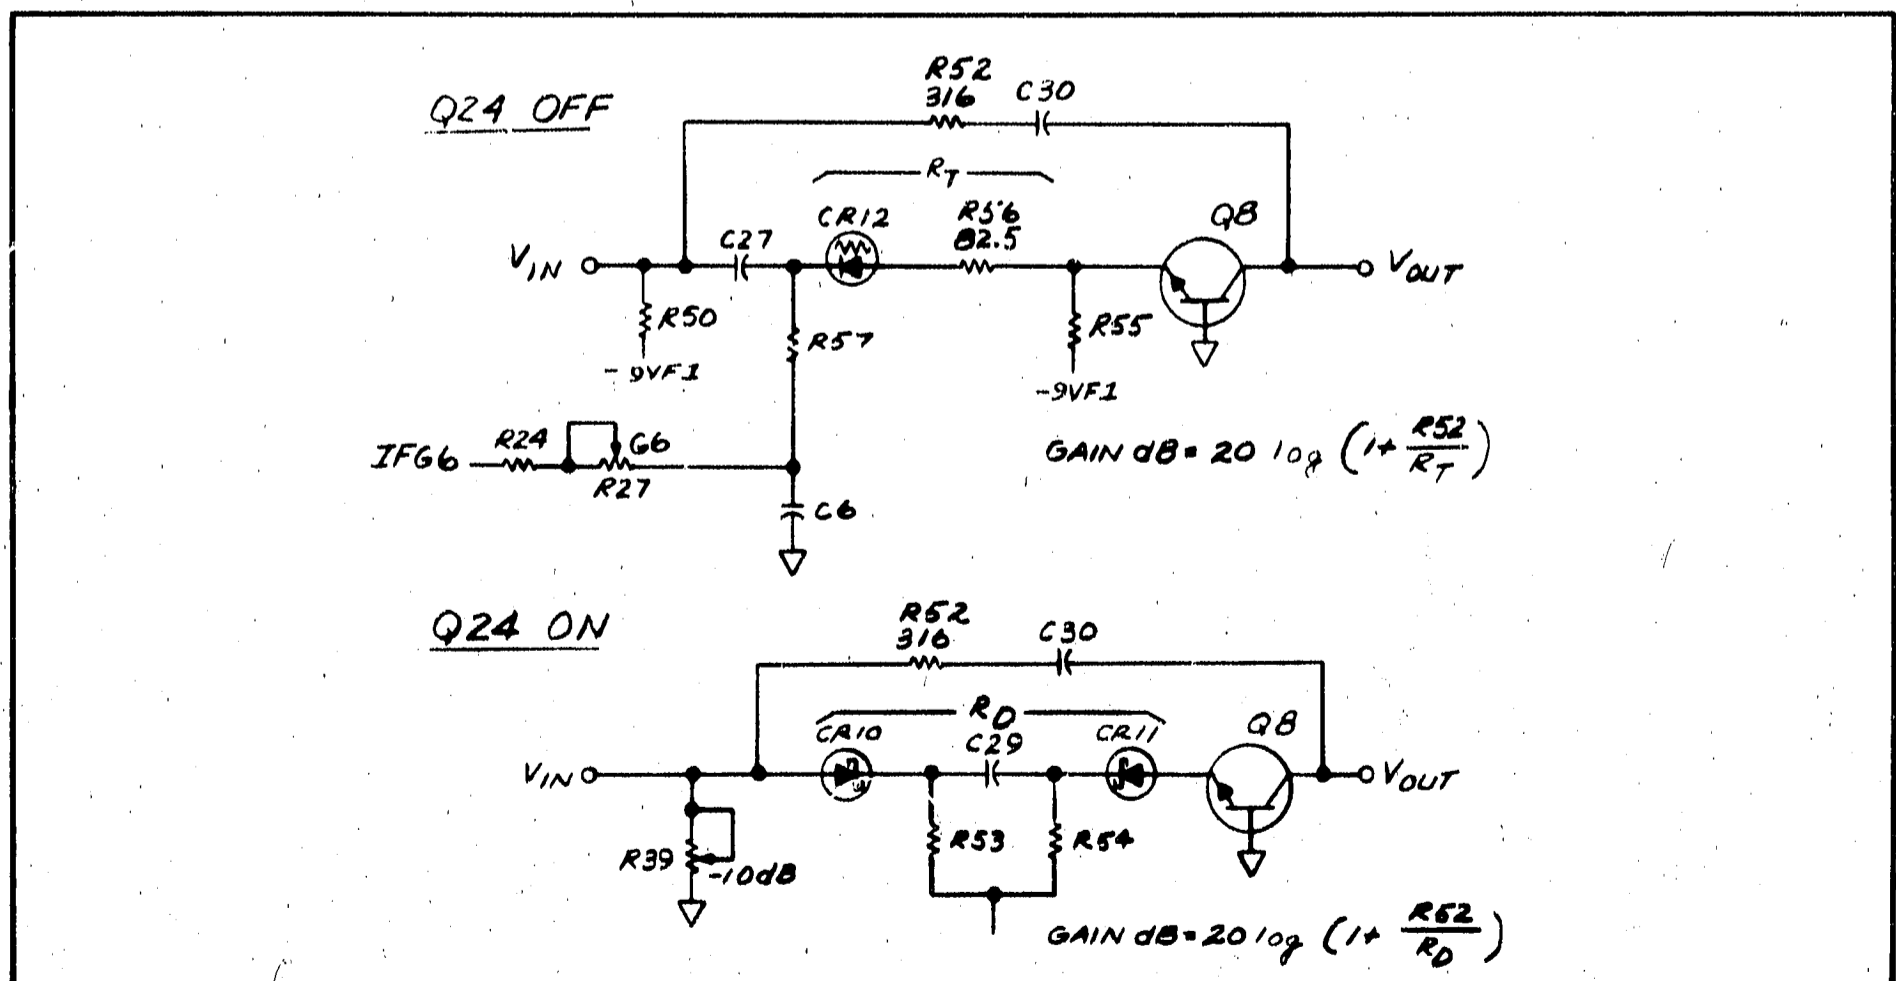

Figure 8-65. Simplified Log Amplifier Stage
**Log Amplifier Gain.** The operation of the second stage is described. In the log mode of operation, Q24 (Gain Control Lines circuit) is on, forward biasing the log diodes CR10 and CR11, which are Schottky diodes with a forward bias voltage of approximately 0.4V. The gain of the amplifier is set by the ratio of R52 to the total resistance  $R_T$  between the emitters of Q13 and Q8. An example of gain computation is shown in Figure 8-65.  $R_T$  is at a minimum (approximately 150 ohms) for small signals when the ac signal current in the log diodes CR10 and CR11 is small compared to their dc bias current. As the ac signal level is increased, the ac signal current increases to the level of the dc bias current and  $R_T$  increases because of current limiting in the diodes.